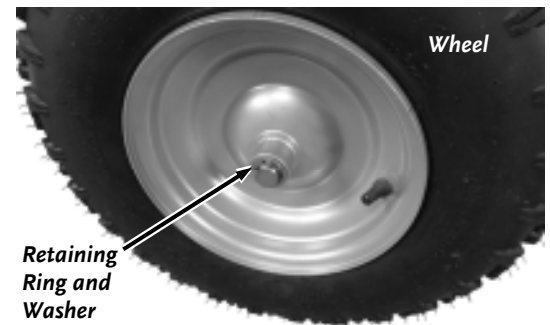

Figure 50
2. Pry off the Wheel Lock Ring with a Screwdriver (**Figure 50**). Remove the Washer and slide the Wheel off the Axle. Check the Axle to ensure the Key stayed in the Axle.